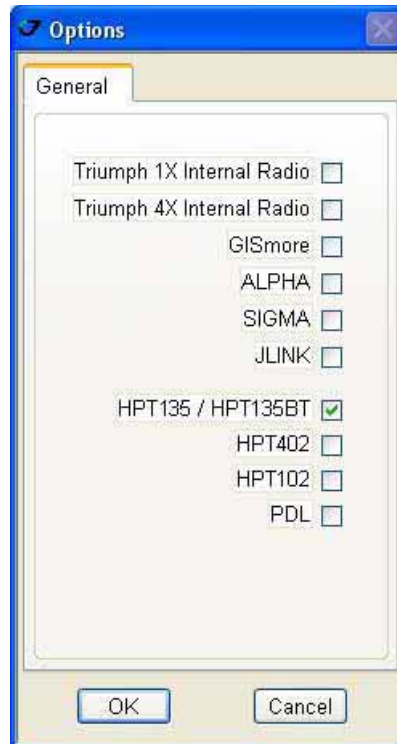

Figure 4. Options window
7. Select the HPT225BT (Figure 4) in the *Options* window, and click *OK*: